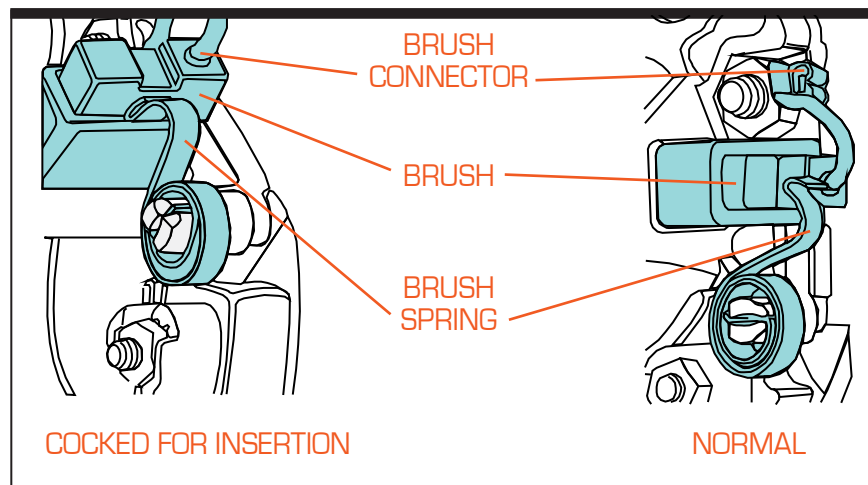

Figure 4-1. DC Motor Brushes with Gasketed Cover Removed
Step 3—Replace Brushes. Lift the brush spring from the end of the brush (see Figure 4-1). Remove the brush connector, withdraw the brush and inspect the length. To prevent motor damage, brushes should be replaced when or before they reach a length of 0.575" (15 mm). New brush length is 1.03" (26 mm). Reverse procedure to replace brush. Replace motor access and feeder covers.